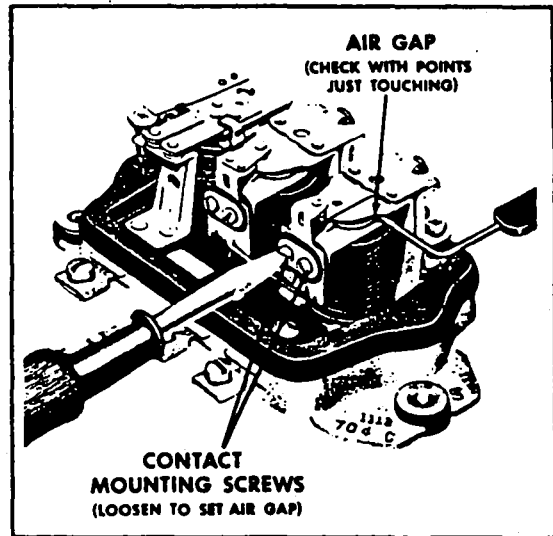

Figure 11-6. Voltage Regulator Air Gap
a. Air Gap: To check air gap, push armature down until the contact points are just touching and then measure air gap. (Refer to Figure 11-6.) Adjust by loosening the contact mounting screws and raising or lowering contact bracket as required. Be sure the points are lined up and tighten screws after adjustment.